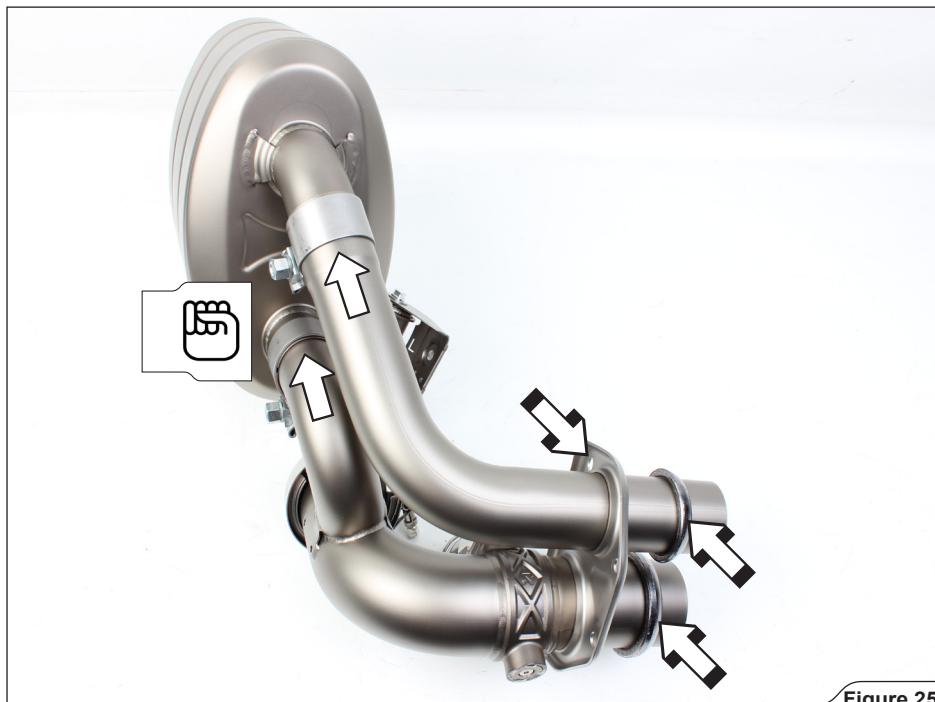

Figure 25
12. Assemble left side muffler with both link pipes. Correctly orient and attach central muffler flange and muffler's inlet gaskets, as shown. Hand tighten the clamps only (**Figure 25**).